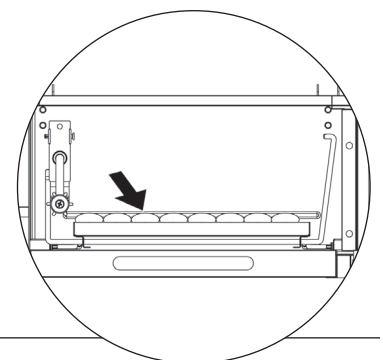

Figure 8
4. Arrange charcoal briquettes or other fuel on the charcoal grid to the "Fill Line" (Figure 8).